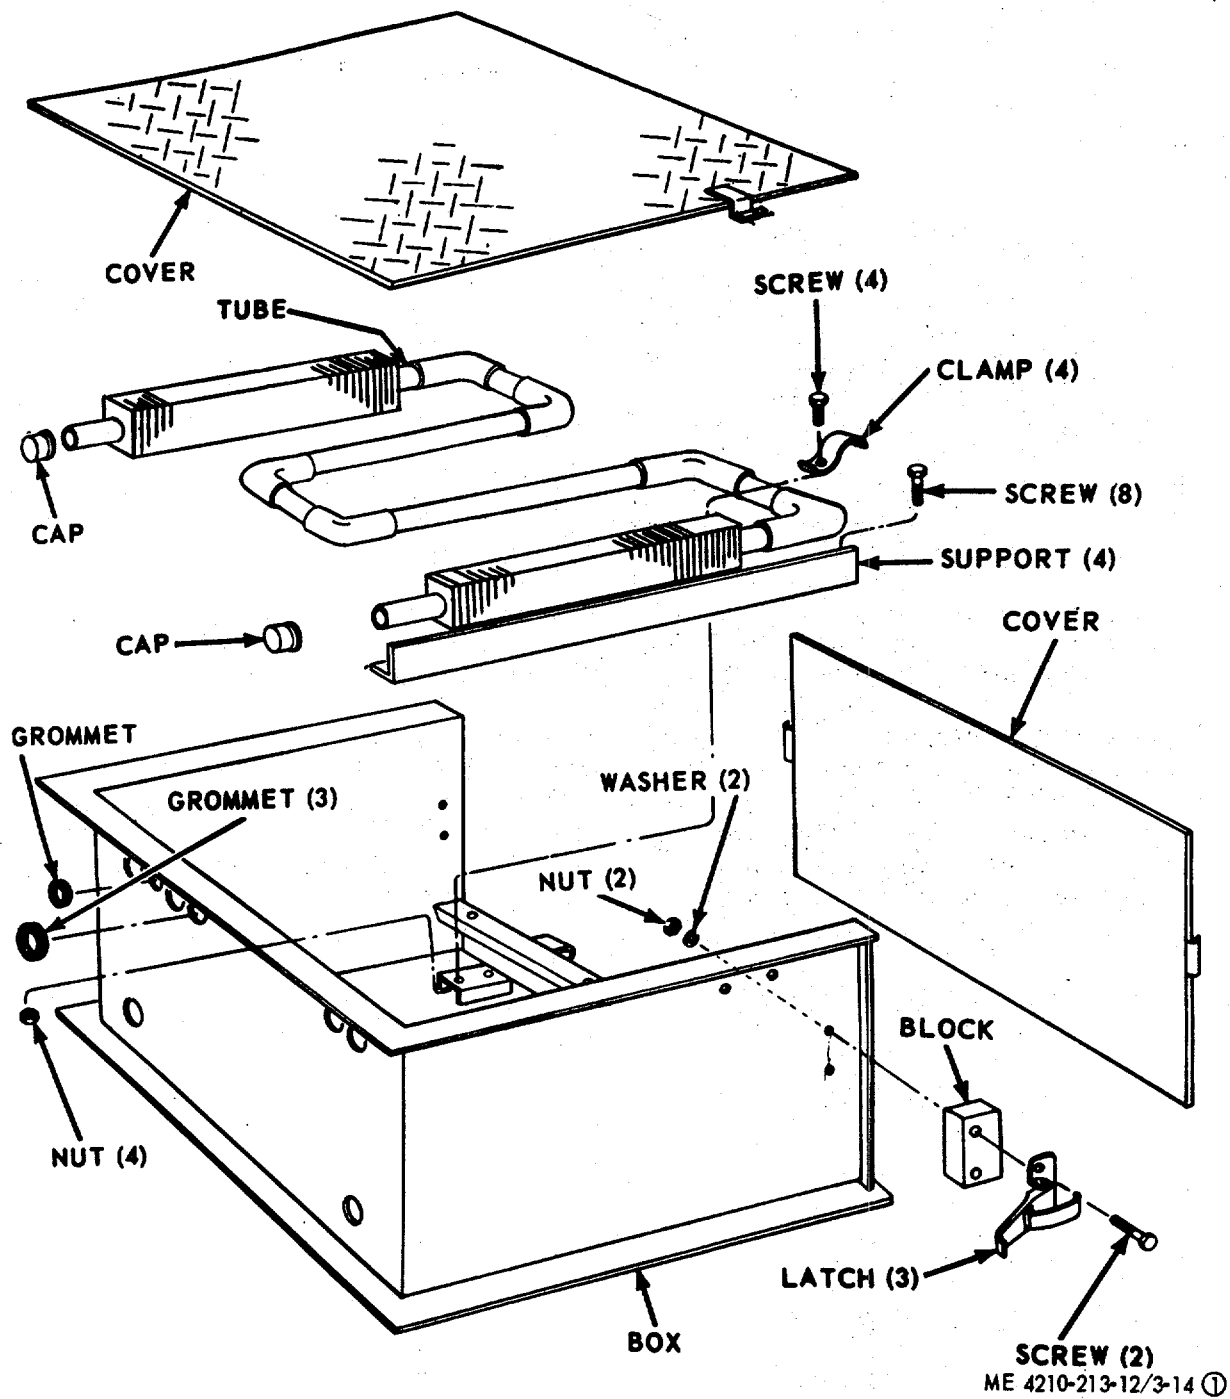

Figure 3-14. Battery box, exploded view.
b. Disassembly. Refer to figure 3-14 and disassemble the battery box. - -
(1) Clean all parts with an approved cleaning solvent, and dry thoroughly.
(2) Inspect all parts for damaged or defective condition.
(3) Replace or repair damaged or defective parts.
d. Reassembly. Refer to figure 3-14 and reassemble the battery box in reverse order.